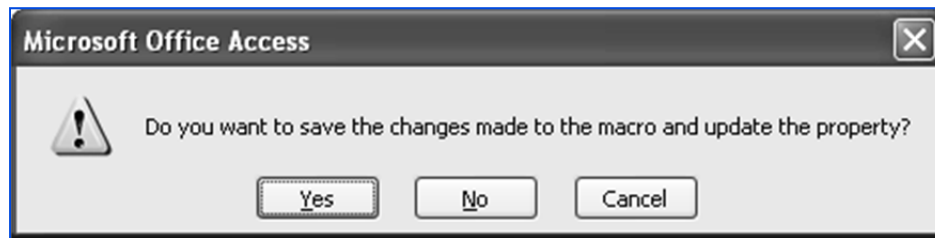

Fig. 2.5.11. Confirm to close the macro
- Specify the second action as *Cancel/Event* and click the *Close* button to close the *Macro* window. The confirmation message appears, as indicated in Fig. 2.5.11.